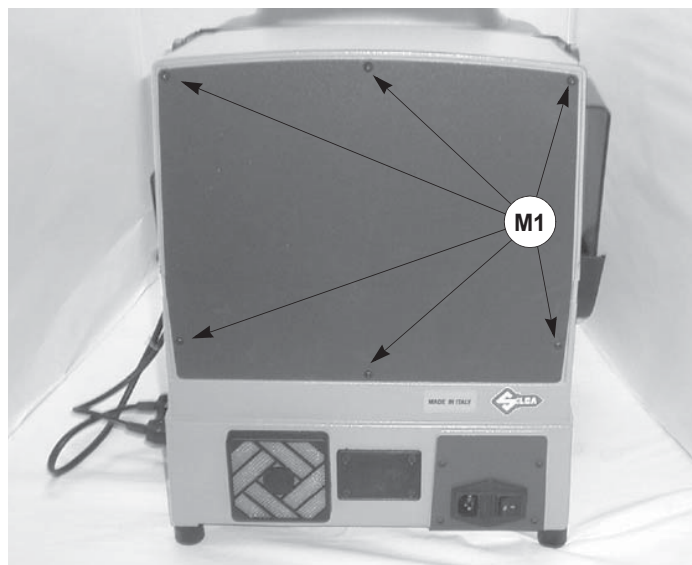

Fig. 139
- 2) unscrew the 6 (M1) screws that secure the back panel (fig. 139) thus removing it.